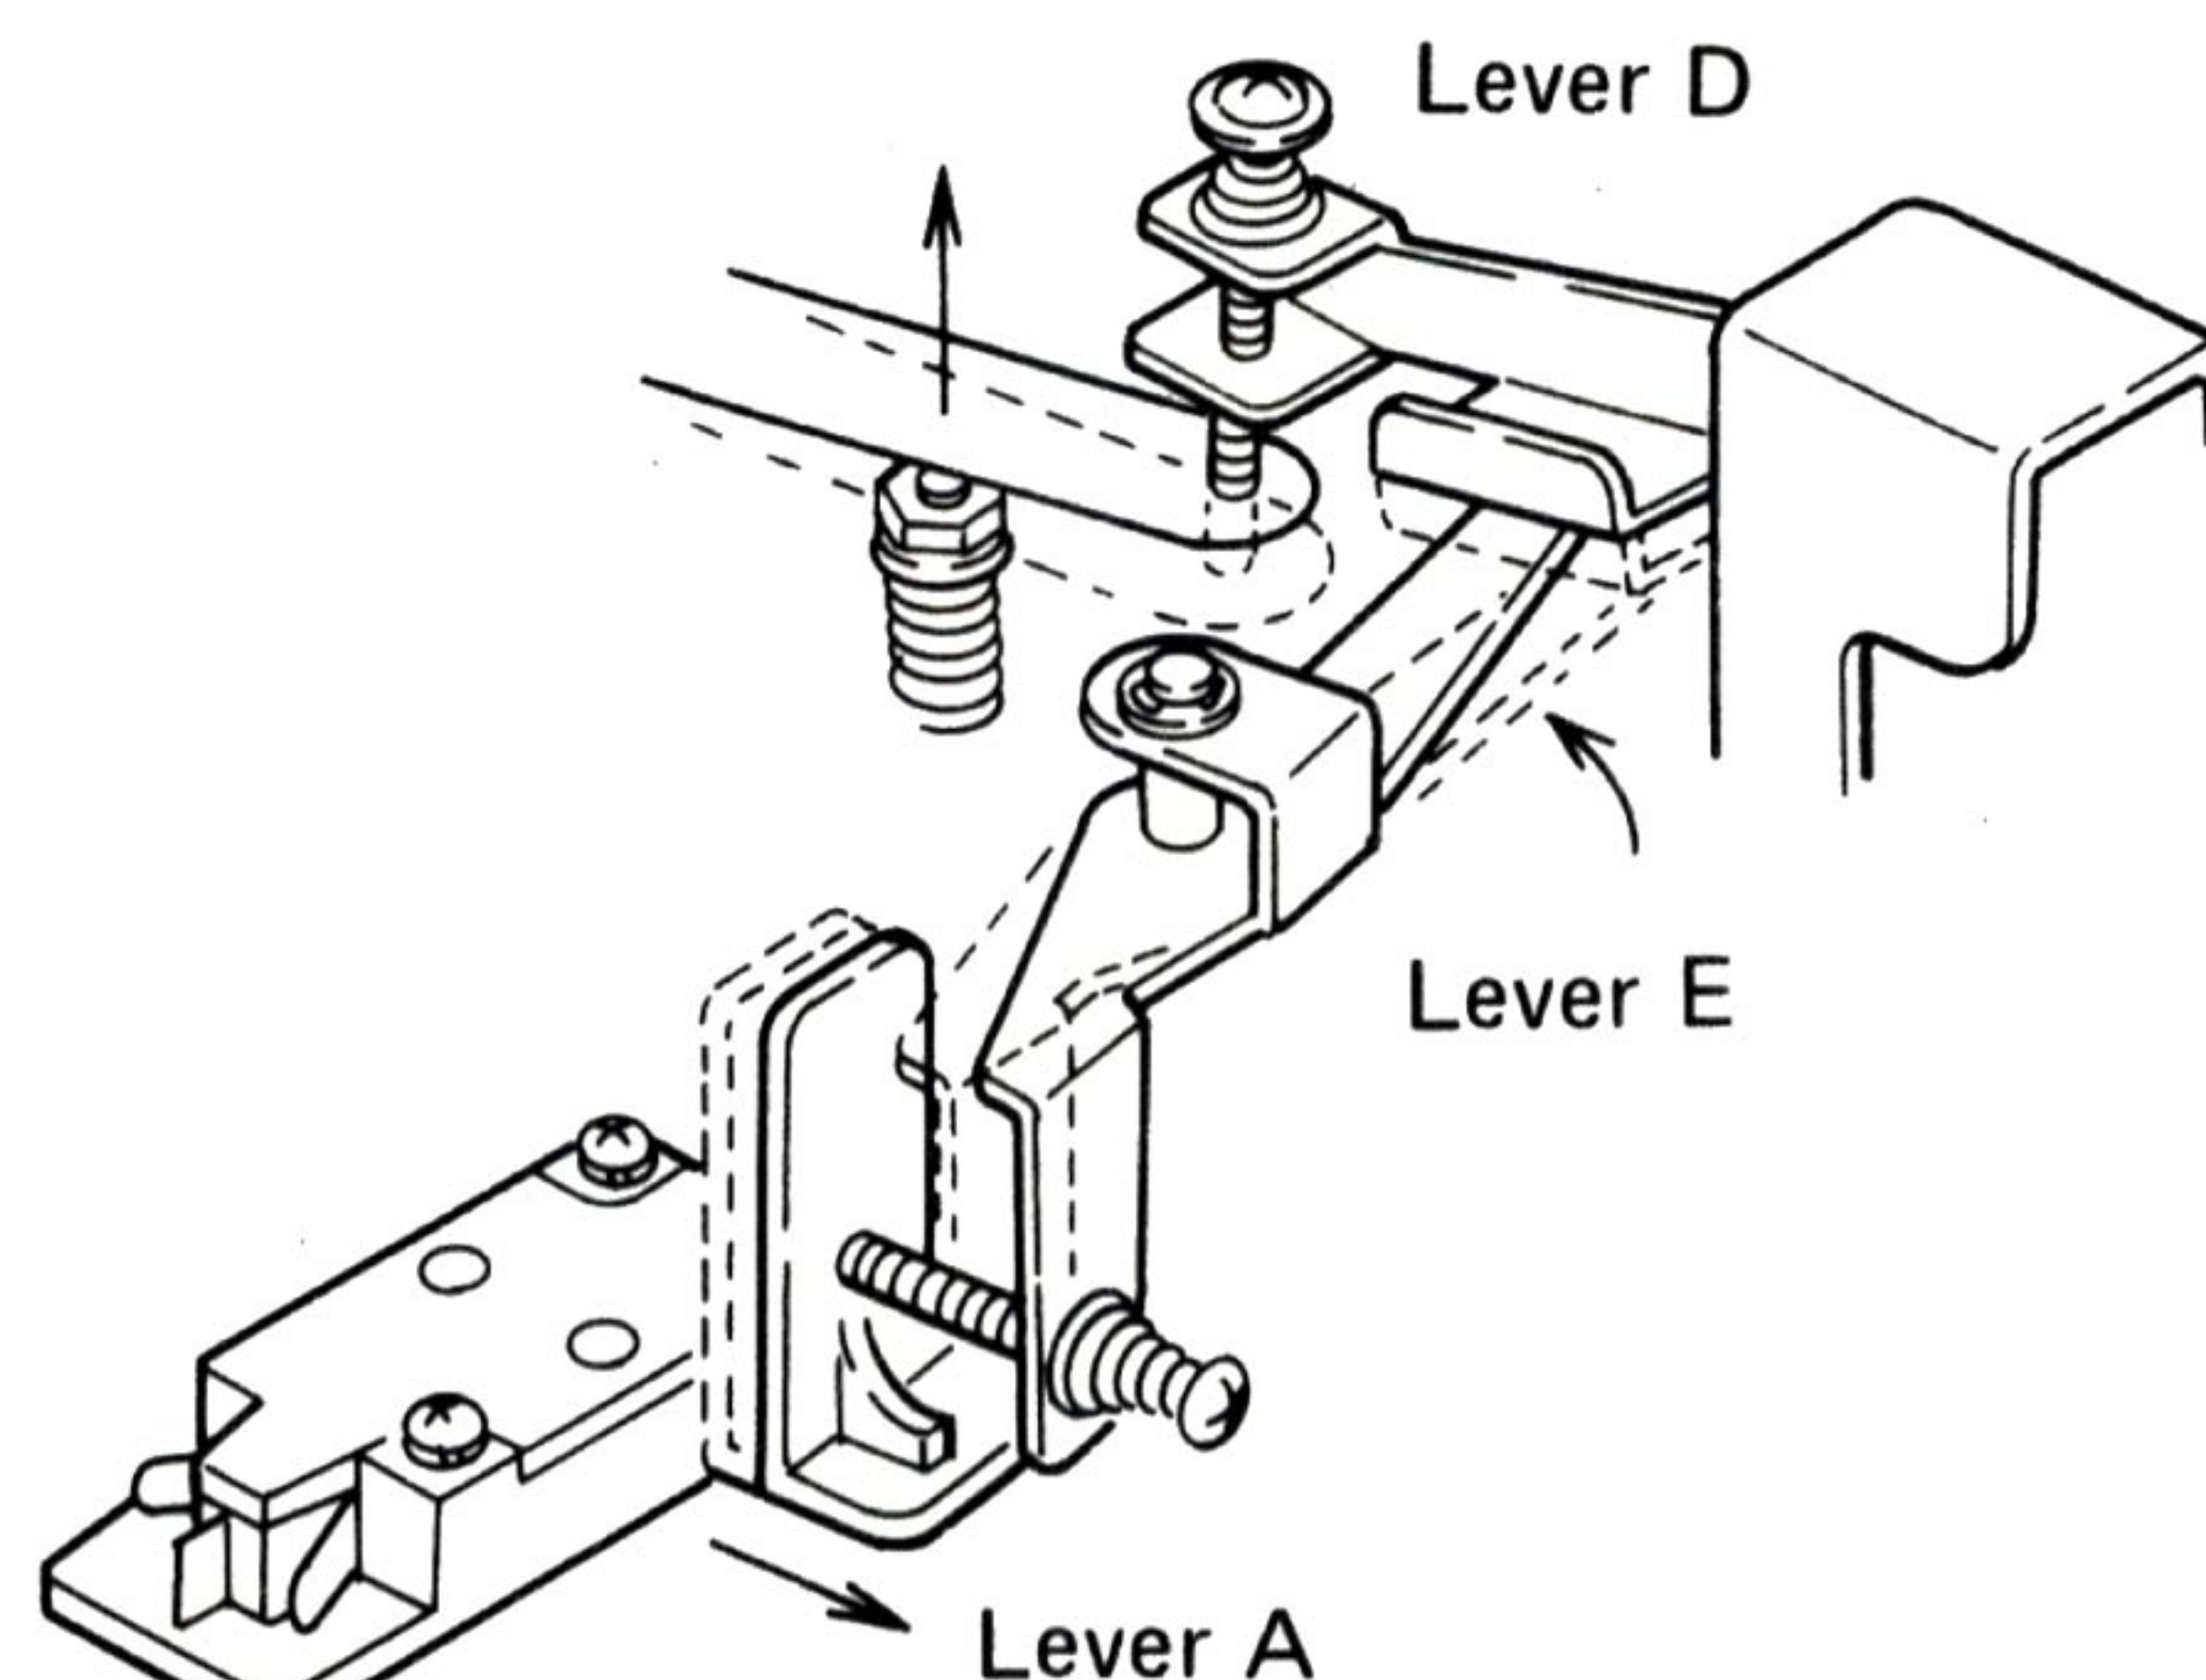

Fig. 18
- After cam A has made one full rotation, lever D which has held the arm elevator in UP position is returned to its normal position, and the tonearm floats down. At the same time, microswitch A is switched on (Fig. 18).